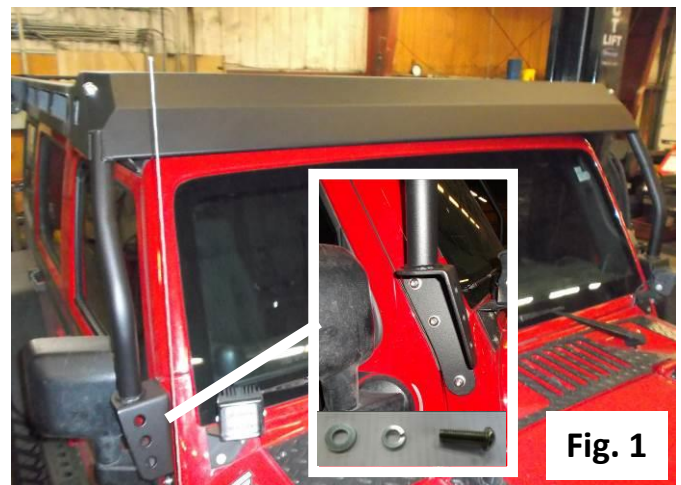

Fig. 1
1. Install Air dam/Windshield mount (this will be much easier with a helper). **(Fig. 1)**